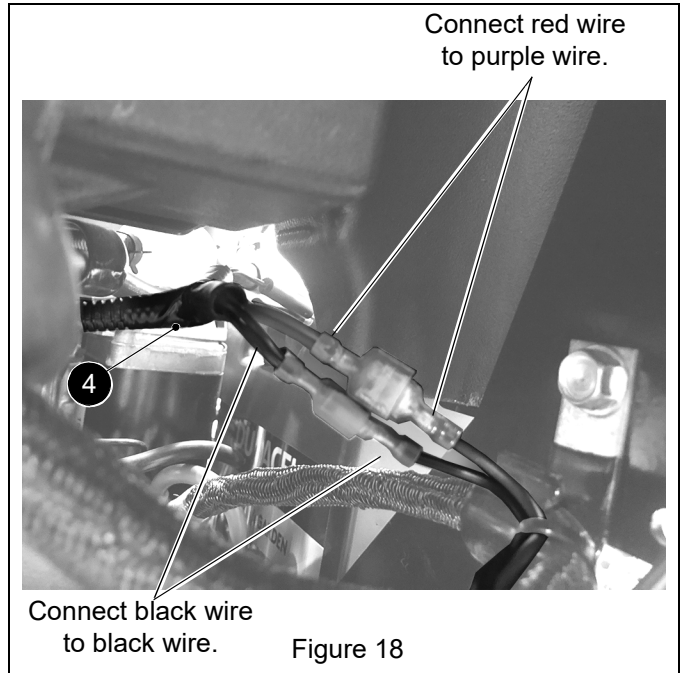

Figure 18
15. Connect short center black and red light harness leads to the purple and black wires on the main harness. Connect the black wire to the black wire and the red wire to the purple wire. See Figure 18.